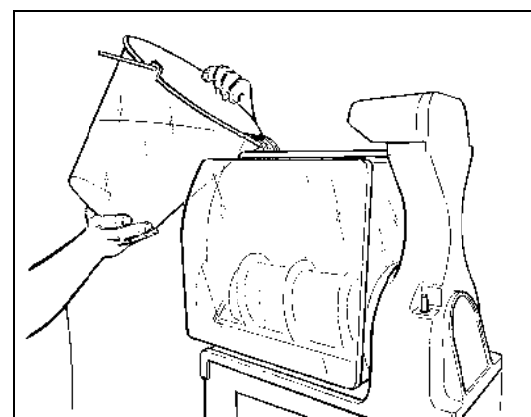

Fig. 7
- Pour the mix obtained into the bowl (see fig.7).